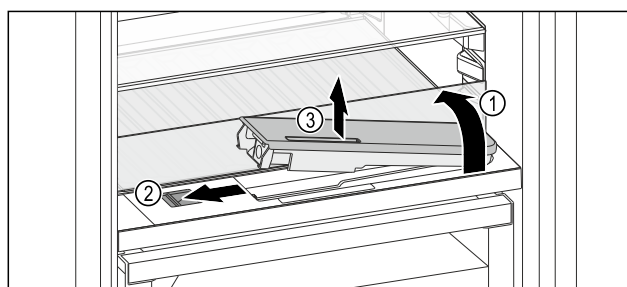

Fig. 151
- ▶ Lift the glass panel and fold towards the rear until it clicks into place *Fig. 151 (1)*.
- ▶ Slide the slider *Fig. 151 (2)* to the left.
- ▶ Remove the water tank *Fig. 151 (3)*.